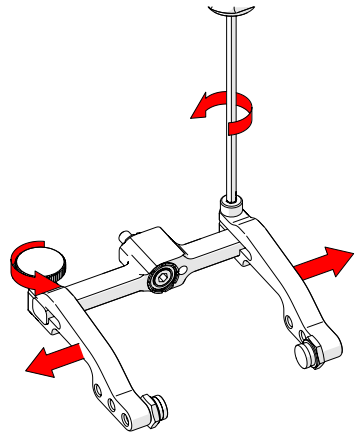

Fig. 120 - Remove probe holder arms
3. Loosen the probe holder arm adjustment knob and the arm clamp screw. Slide the probe holder arms off the yoke (Fig. 120).